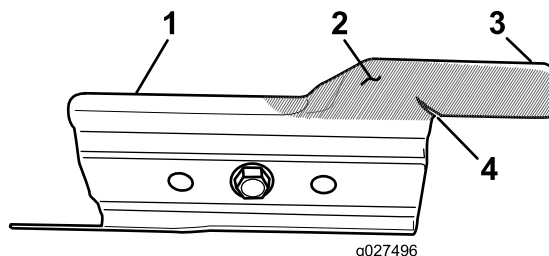

Figure 24
Carefully examine the accelerator for excessive wear (Figure 24). Because sand and abrasive material can wear away the metal (especially in the area shown as item 2 in Figure 24), check the accelerator before using the machine. If you notice that a tab on the accelerator has been worn down to a sharp edge or there is a crack, replace the accelerator; refer to Removing the Blade (page 20).